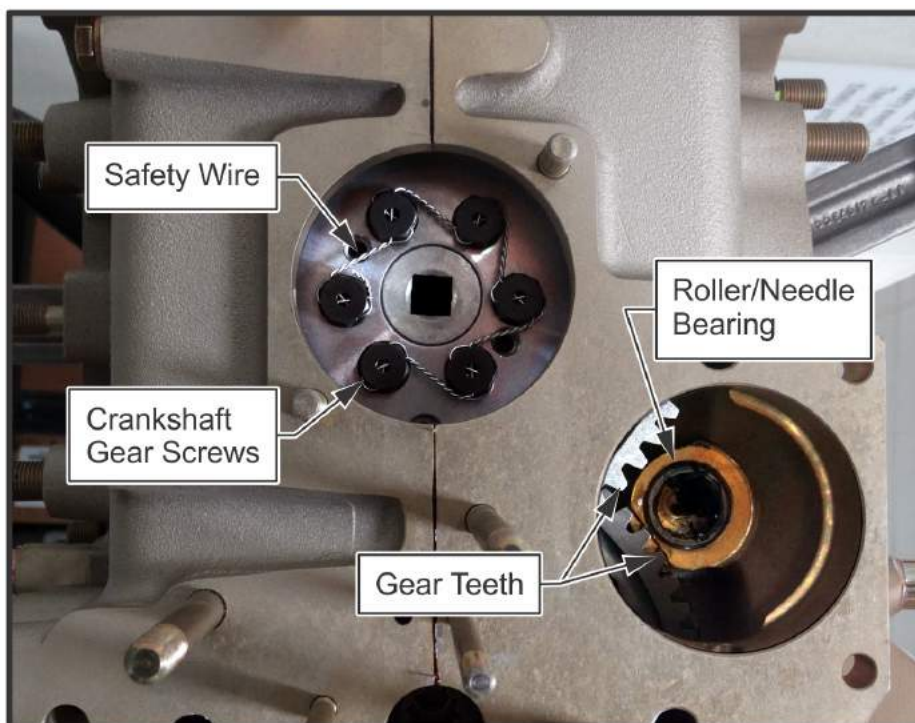

Figure 1. Crankshaft Inspection Area, typical
4. Visually inspect the journal portion of the starter shaft gear that engages the accessory case roller/needle bearing in the crankcase (see Figures 1 & 2) for condition and dimensional fit in accordance with the applicable Overhaul and Maintenance Manual.
- 2) remove and replace the crankshaft gear screws (see Figure 1), **one screw at a time**, in accordance with the instructions in the applicable Overhaul and Maintenance Manual.